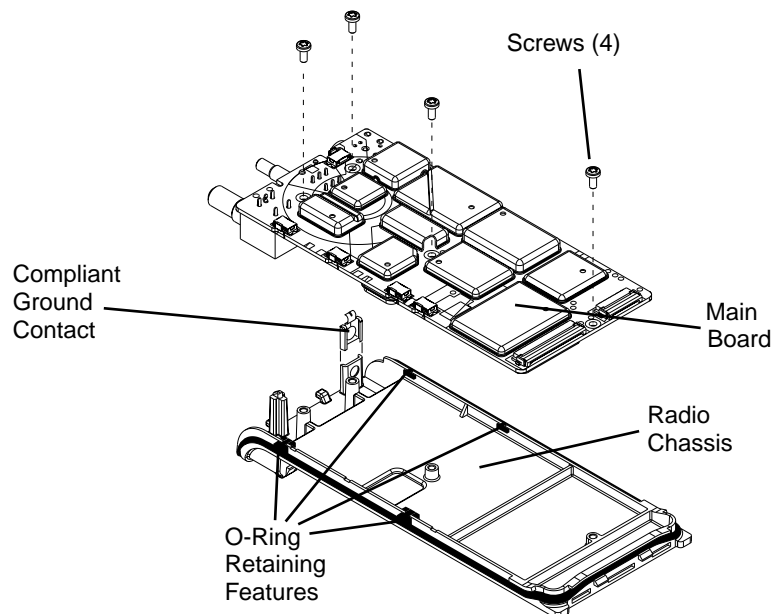

Figure 3-5. Main Board from Chassis Removal
2. Lift the main board from the chassis as shown in Figure 3-5.